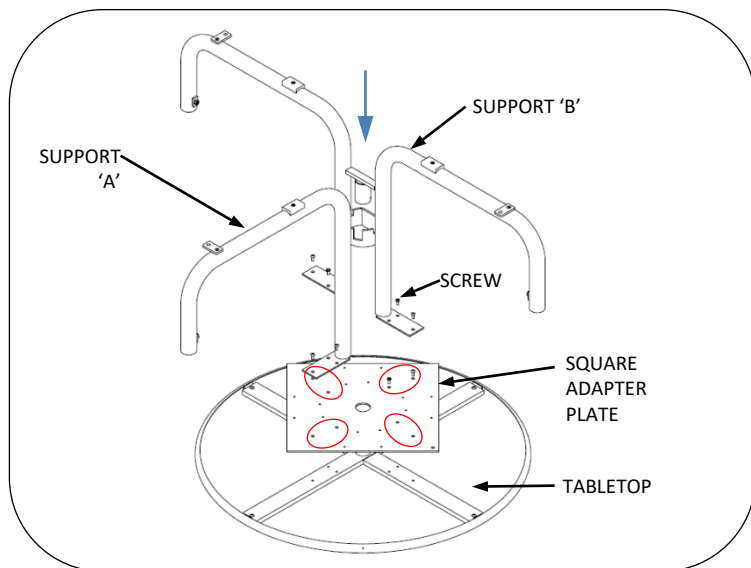

Fig. 1 – Three Seat table to support install
4. Place table support "A" (has 5" ring at center) upside down on table top and align holes, see Fig 1, 2 or 3.